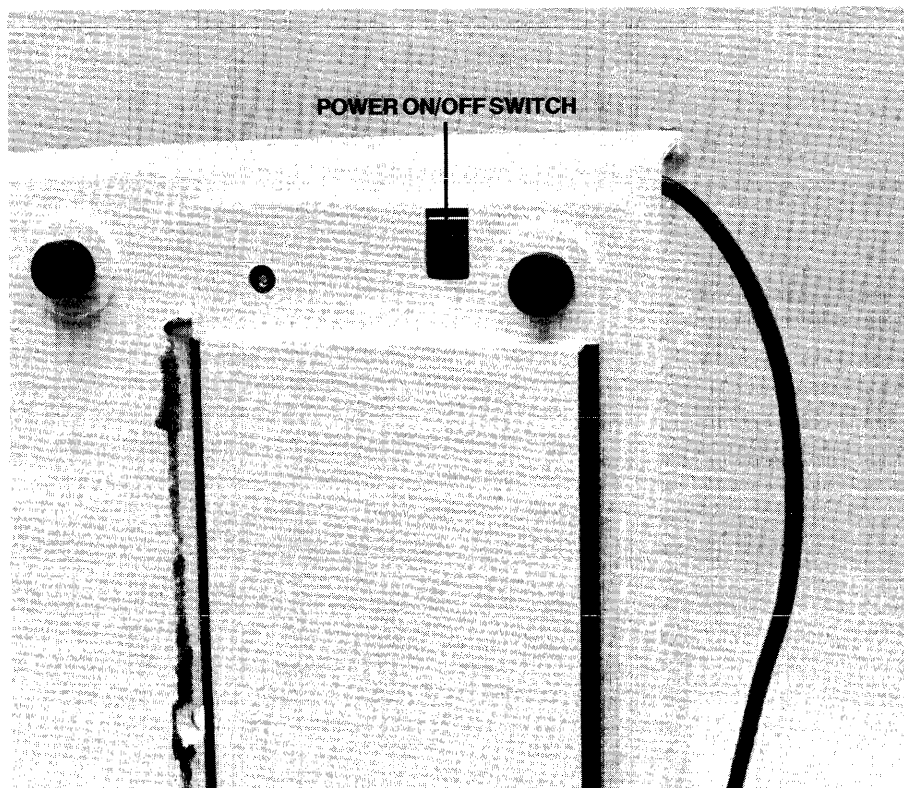

Figure 2-1. POWER ON/OFF Switch Shown in the OFF position
This switch, which is used to turn the power on or off and initialize the printer, is located under the printer in the right rear corner. See Figure 2-1, which shows the bottom of the printer.
4. Locate the POWER ON/OFF switch on the bottom right rear of the printer. See Figure 2-1.
1. Turn on the printer by pulling the POWER ON/OFF switch (Figure 2-1) toward the front of the printer.
1. Locate the POWER ON/OFF switch on the bottom right of the printer (Figure 2-1).